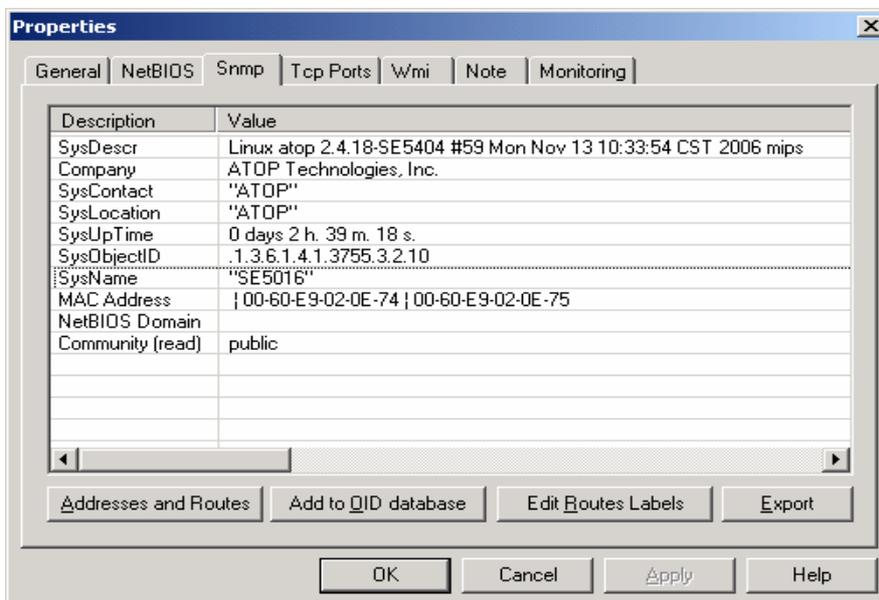

Figure 5.4 Network View-Node details
3. Double-click on the device icon to display information about the device, including IP Address, Company, SysLocation (Max 15 characters), SysName (Max 9 characters) and types etc(Figure 5.4).